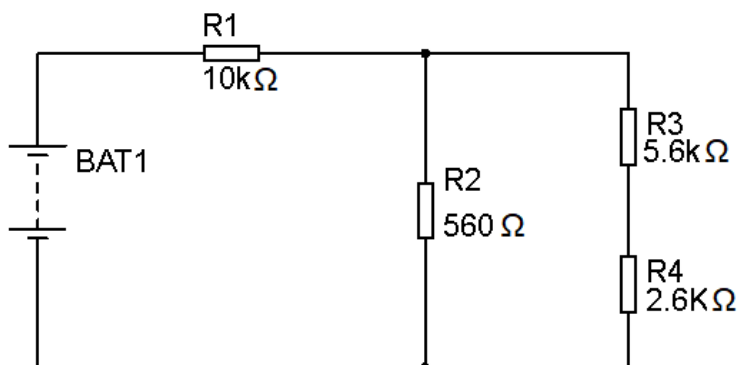

Figure 6 – Circuit 3
c) Find the total resistance of the circuit shown in Figure 6 below. Show all your working.